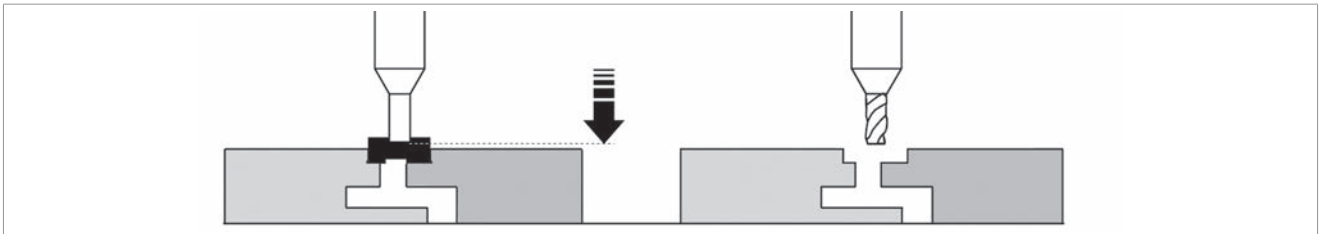
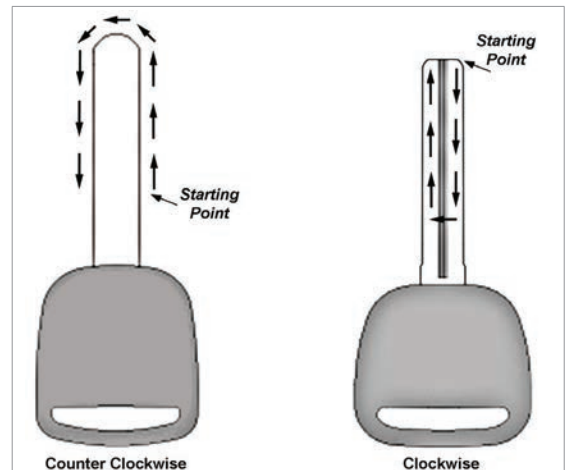

Fig. 28
Fig. 30
**ATTENTION:** before starting to cut laser (sidewinder) type keys, deactivate the spring system by ring nut (O) (ch.7.4).
- 2) Use lever (J) to lower the vertical carriage, without exerting too much pressure, until the tracer rests in the bottom of the cut on the original key (Fig. 28) and secure the spindle at this height by means of knob (R).
- 4) Start the cutting operation by activating switch (Q).
- 5) Carry out cuts using only the left-hand lever (C) as shown in Fig. 30 below.